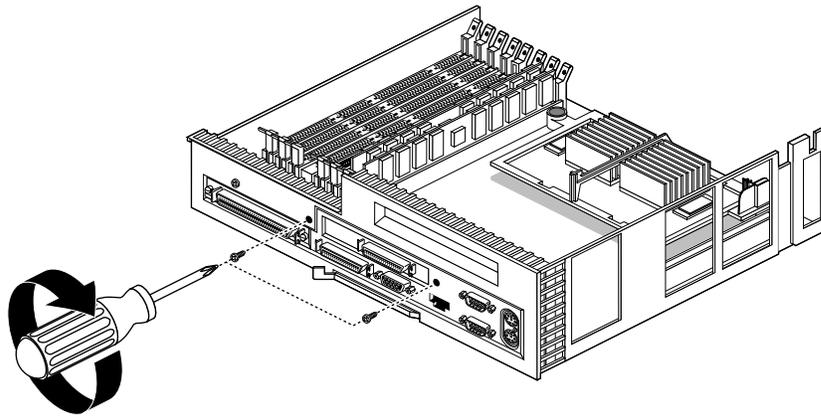

Figure 1-17 Securing the Flat Panel Monitor Adapter Board: O2 R5000 Class Workstations
9. Secure the Flat Panel Monitor adapter board by replacing the screws, as shown in Figure 1-17.